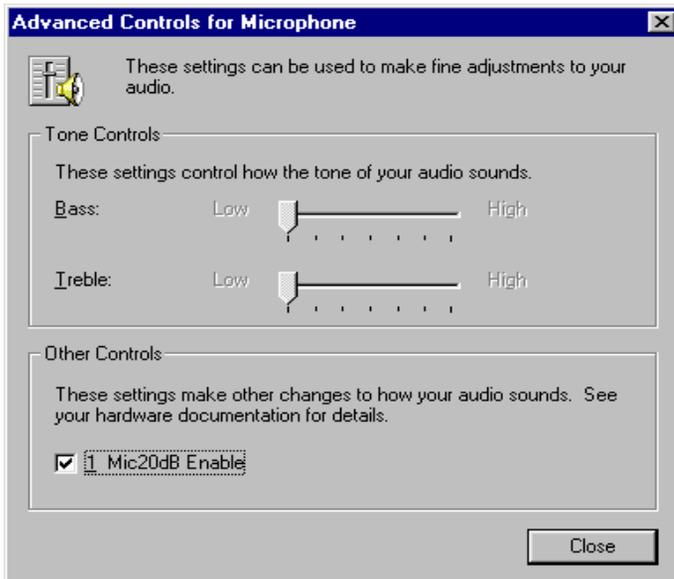

Figure 3-3. The Advance Controls for Microphone Windows.
- The Advanced Control for Microphone window will now appear as shown in Figure 3-3 below. Adjust the Bass and Treble as desired by dragging the slide-bars horizontally. If you wish to enable the Mic20dB setting for your microphone, then click on **Mic20dB Enable**.